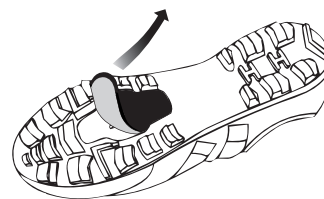

Figure 1
1. If there is a cover over the cleat area of the sole, remove the outer sole cleat cover from the shoe using a pair of pliers. (Fig. 1)